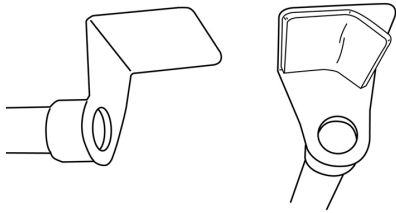

Figure 4. Support Arms and Installing Felt Pads
4. Notice that on each end of the PianoMic™ bar there are support brackets that will be placed on the upper edge of the piano case sides. These support brackets have rounded edges and are covered with a soft coating to avoid scratching the piano. The support brackets are thin enough to allow the piano lid to be completely closed with the PianoMic™ System inside the piano. If you desire a more snug fit with the lid closed or if vibration becomes an issue, install one of the enclosed felt pads on the support brackets as shown in Figure 4. If this is not a snug fit, you can place additional felt pads on top of the support arms as well.